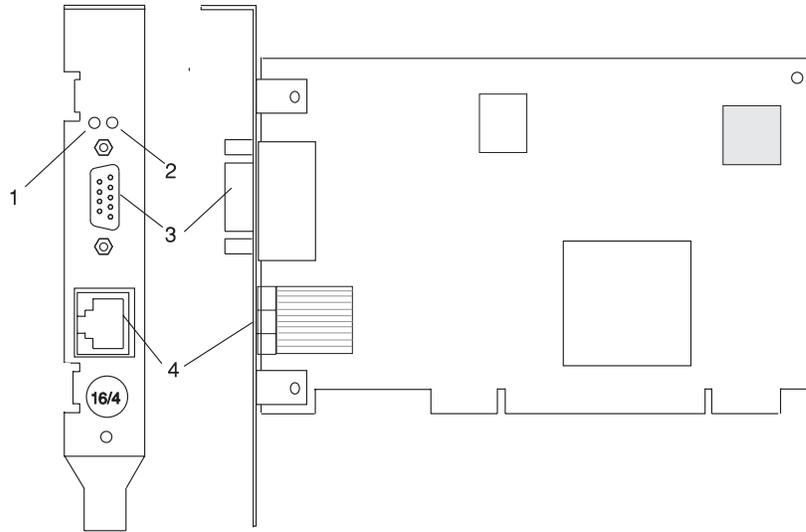

Figure 1-2. Token-Ring PCI Adapter Type 9-O
- Type 9-O adapter (Figure 1-2 on page 1-2) supports UTP with on-board filters with an RJ-45 connector and STP media with a 9-pin D-shell connector.